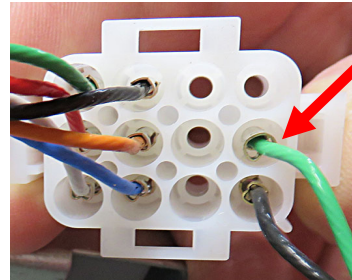

Figure 20
21. Insert the green wire into Pin 2 (see Figure 20).